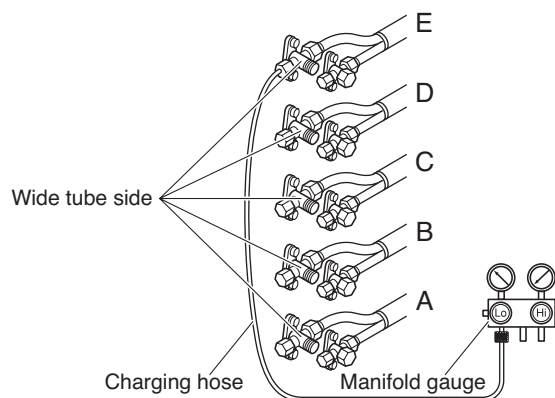

Fig. 23
- (2) Connect the manifold gauge to the charging port at the valve on the wide tube side of tube E. Purge the air from the charging hose. (Refer to Fig. 23.)
- (3) Perform cooling operation or forced cooling operation. When the pressure at the low-pressure side is 0.05 – 0.1 MPaG (0.5 – 1 kg/cm2G), fully close the spindles at the valves on the wide tube side of tubes A, B, C, D and E, and immediately stop operation. (Refer to Fig. 23.) In the winter, the outdoor unit may stop after 5 – 10 minutes of operation. This is in order to protect the indoor unit heat exchanger from freezing and does not indicate a problem.